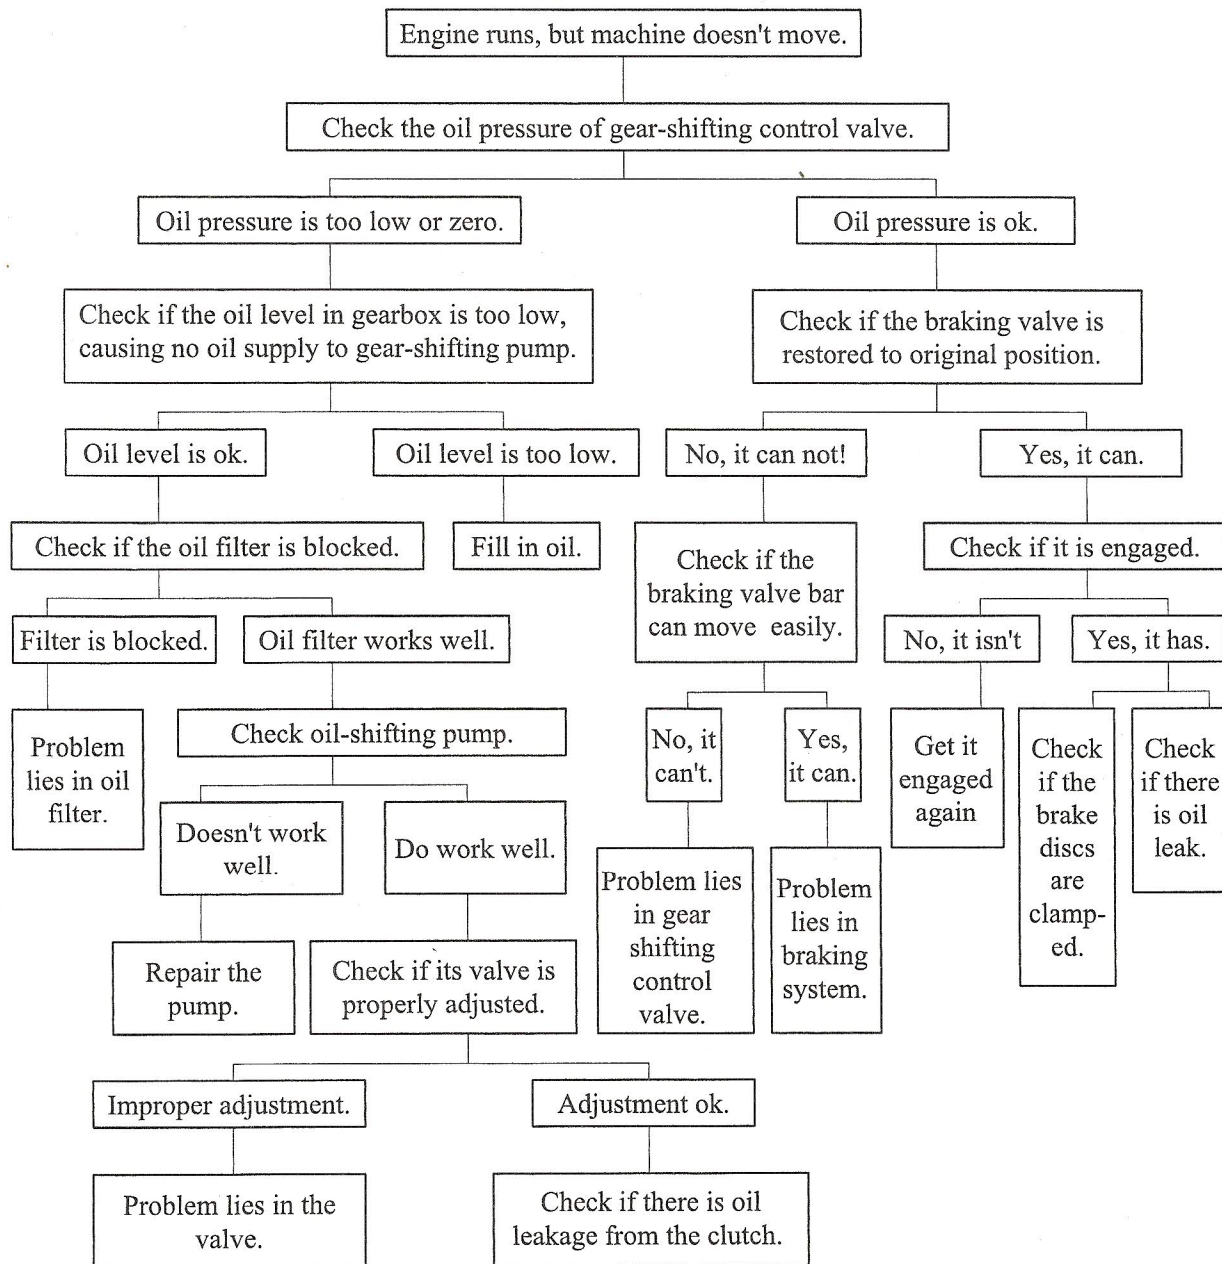

Fig. 06-05 Diagnosis process chart for the problem the machine doesn't move while engine running.
- The engine runs, but the machine doesn't move (See Fig. 06-05).